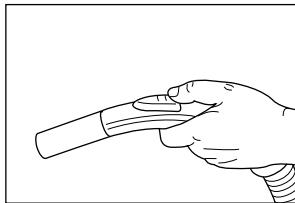

Fig. 5
The secondary air valve (U) is located on the handgrip and it is used to adjust suction power (FIG. 5).